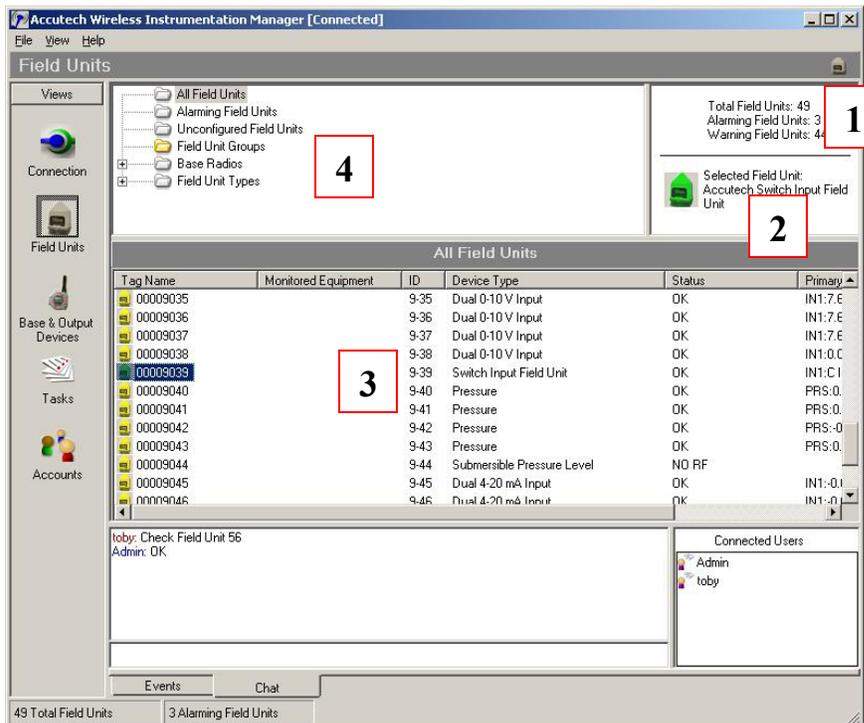

Figure 8-1: Field Unit View
The view you will see upon connection is the Field Unit View. This view shows the Field Unit information, and allows you to configure and view individual Field Unit data. This view can be accessed at any time by clicking on the Field Units icon in the Views pane. The Field Unit View is shown in Figure 8-1.
Each of the four numbered areas in Figure 8-1 is explained in the following sections in order.
**Note** *Field Units are often referenced throughout the software by two numbers, such as 1-1 in Figure 8-1. The first number refers to the Base Radio ID and the second number refers to the Field Unit RF ID.*